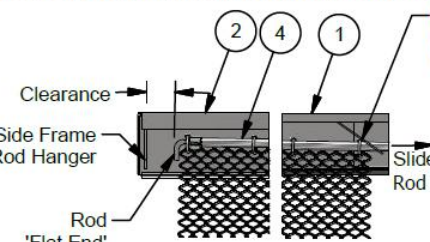

Figure 6b
2. Slide the Rod ④ through the Hanger until there is clearance for inserting the 'flat' end into the Side Frame Rod Hanger. (Figure 6b)